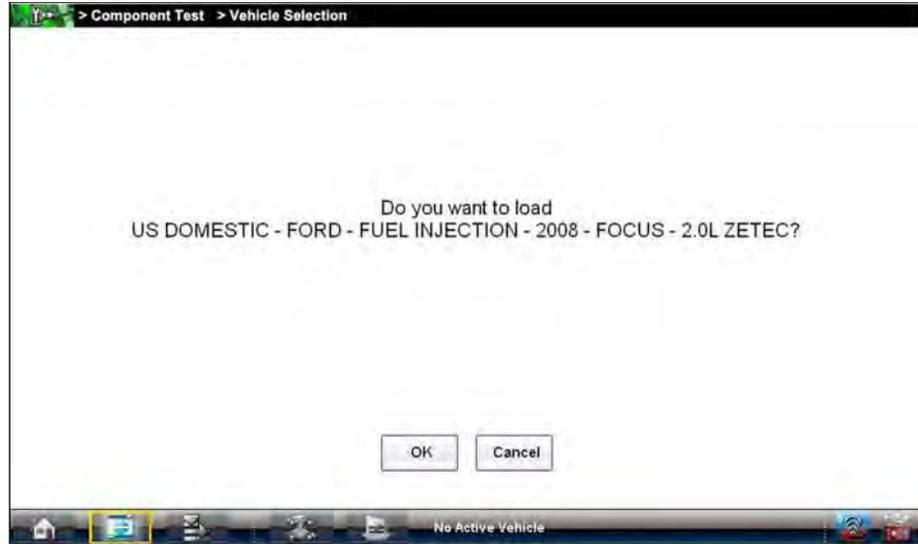

Figure 7-2 Sample confirmation dialog box
7. Select **2.0L ZETEC** from the engine list and a confirmation dialog box displays (Figure 7-2).